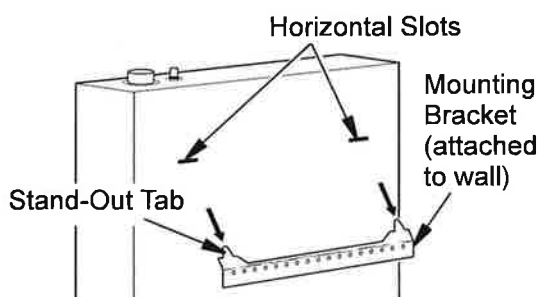

Figure 12 - Mounting Heater Onto Mounting Bracket
1. Locate two horizontal slots on back panel of heater (see Figure 12).